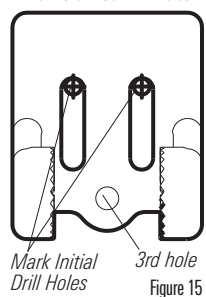

Figure 15
3. Continue to hold the bracket on the transom of the boat, and use a pencil or marker to mark the two mounting holes. Mark the drill holes near the top of each slot, making sure that your mark is centered in the slot (Figure 15).